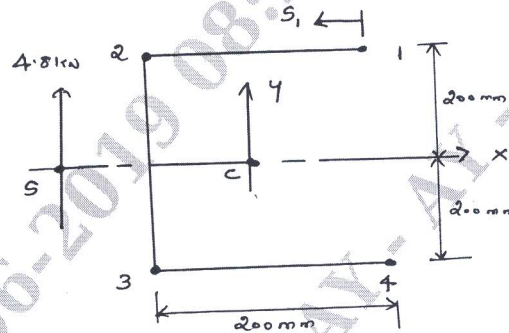

Fig.Q4
- 4 Calculate the shear flow distribution in the channel section shown in Fig.Q4. Produced by a vertical shear load of 4.8 kN acting through its shear centre. Assume that the walls of the section are effective in resisting only shear stresses, while the booms, each of area 300mm^2 , carry all the direct stresses. (16 Marks)